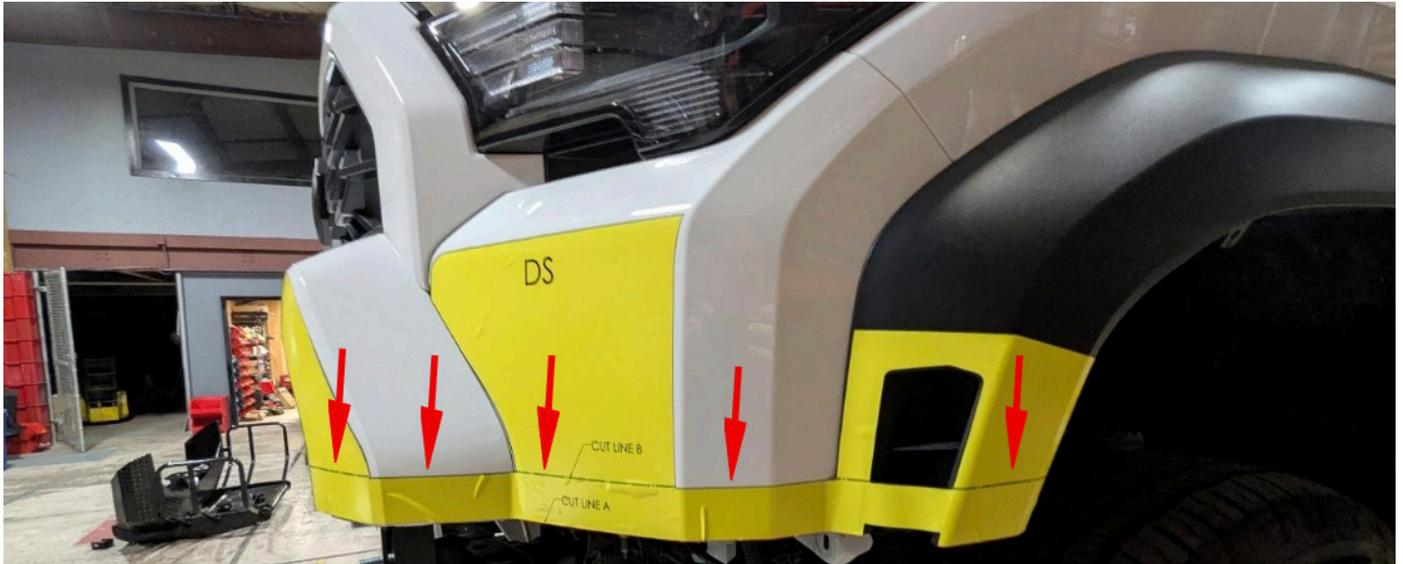

Figure 40
28. Start the cut at the fender and cut on the “CUT LINE B” cutline. It is recommended that the edge of the cutting blade remain below the template line to ensure a clean fit. (Figure 40)